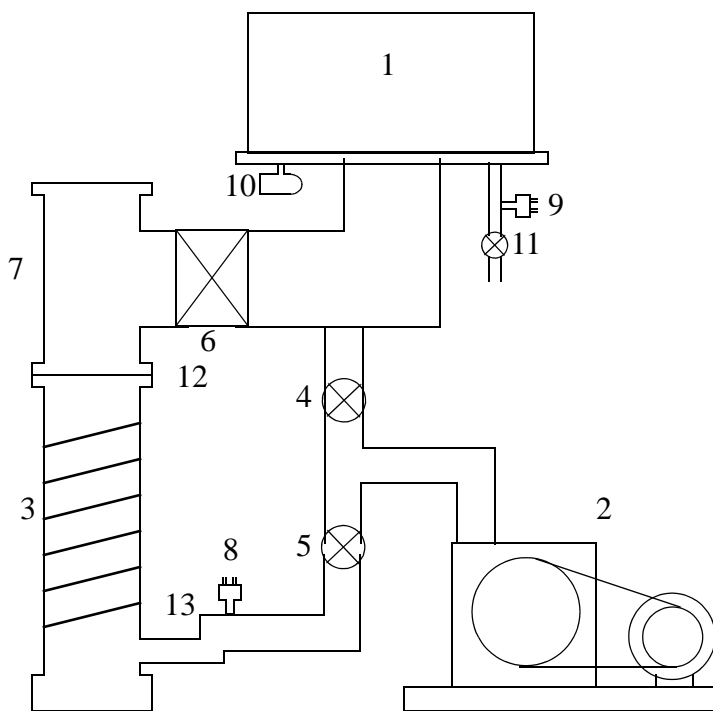

Fig. 2. The evaporator vacuum system.
1. It is impossible to say what the status of the bell jar will be when you get to it. It may already have been removed from rest of the evaporator and be sitting somewhere in the lab. If it is on top of the bell jar it may or may not have a partial vacuum in it. If it is on the evaporator, you will need to remove it and set it down out of the way. The bell jar is made out of glass. It hates everyone and is vigilantly and relentlessly looking for a chance to chip or break and ruin your experiment. Needless to say, you must not drop it. Less obviously, the edges are extremely easy to chip, even through the rubber gasket, and you must set the bell jar down very gently and place the lid on top of it very gently. It is heavy and awkward and this is hard to do, but it must be done anyway. Make sure there are no chunks of anything on the gaskets or on the surfaces you are setting it on before setting the bell jar or lid in place. Any chunks in the seals may cause a chip that will leak. There are numbered valves on the evaporator. Their function is described in detail below. To remove the bell jar, make sure Valves 4 and 6 are closed. Open Valve 11. If it hisses, wait until it stops. Then you can remove the bell jar. Often over zealous vacuum grease users put so much grease on the rubber seals that the bell jar is hard to lift. To get it off, place a hand at the lower left corner of the bell jar in Fig. 2 and push with your other hand or shoulder depending on your height on the upper right hand corner. Do not strike any sharp blows during this process (it's still made of glass after all) but smoothly ramp up the force you apply until the lower right corner lifts off. It'll be easy after that. Once it's off, you can set it on the little platform behind and to the right of the evaporator.
Figure 2 shows a schematic diagram of our evaporator:
2. Make sure that valves 4, 5, 6 and 11 in Fig. 2 are closed. (Always check to see if valves are closed by trying to close them. A little thought will tell you why.) Find the right switch and turn the mechanical pump on. You'll hear it if you succeed. Open valve 5. We are about to heat up the oil in the diffusion pump. The golden rule above has a corollary: *when the diffusion pump is hot Valve 5 is **always** open except during time intervals just a few minutes long when having Valve 5 open would violate the golden rule.* After a minute or so thermocouple gauge 8, the bottom green LEDs on the gauge controller, should come on scale meaning they should light up from left to right. If this doesn't happen go for help from some cognizant authority. The units on this gauge are thousandths of millimeters of mercury, aka microns, aka millitorr or mtorr. Once thermocouple 8 is on scale, the pressure inside the diffusion pump, 3 above, is low enough so that is safe to turn on the heater. First find the valves that bring chilled water to and from the coils around the diffusion pump. Turn both of them on. The chilled
5. After the bell jar thermocouple gauge, 9 in Fig. 2, reads  $\sim 200$  mtorr, close Valve 4, open Valve 5 and open Valve 6, in that order. It requires approximately 75,000 full turns of its handle to open Valve 6, or at least it seems like this many. Be gentle and patient and just keep turning until it is open. It will come to a hard stop. The valve is very subject to mechanical damage if net forces are applied to the valve stem. So take your time and apply torque not net force. If you don't know the difference, ask. (By the way, why do you think Valve 4 must be closed now?) Pumping much below 200 mtorr through Valve 4 with the roughing pump allows roughing pump oil vapor to diffuse into the bell jar and that's not good. A minute or so after Valve 6 is open you can turn on the ionization gauge. The filament should glow like a light bulb and remain on. If it does so, everything is ok. If it does not, wait a couple of minutes and try again. If there is still no luck, shut Valve 6 and go for help. The thermocouple pressure gauges and ionization gauges, why they work and what ranges of pressure they are good for, are described in Appendix B.
6. Now you have to decide how low a pressure to get to before making your sample. The average distance a metal atom will fly through a gas at a pressure  $P$  before it undergoes a collision is called the mean free path. The mean free path,  $\lambda$ , is given roughly by Equation (1). This
1. Make sure that the big knob on the variac (which is an inductive voltage divider for ac voltages) is turned against the stop, all the way counterclockwise. If there is a mechanical shutter between the boat and the substrate in the evaporator, turn it out of the way by rotating the knob under the base plate shown in Fig. 2.